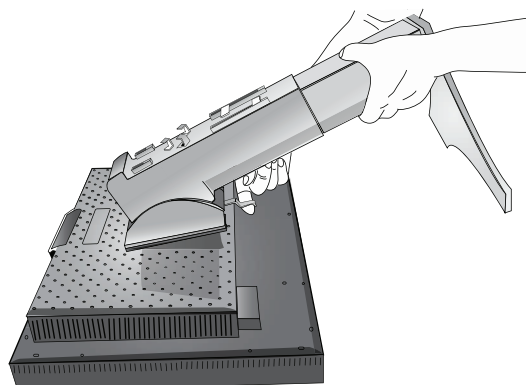

Figure S.3
5. Lift up the bottom of the stand to unhook it from the monitor (**Figure S.3**). The monitor can now be mounted using an alternate method. Reverse process to reattach stand.